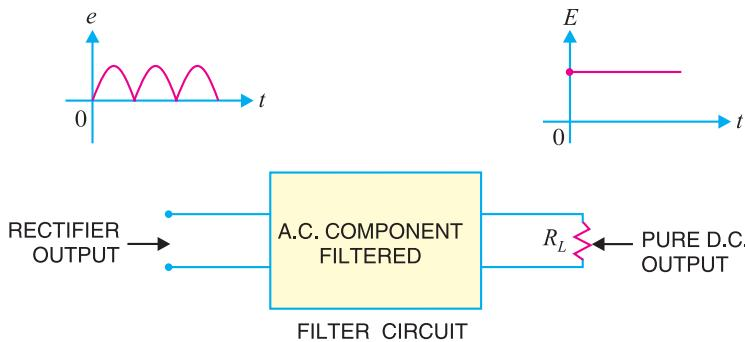

Fig. 6.40
Obviously, a filter circuit should be installed between the rectifier and the load as shown in Fig. 6.40. A filter circuit is generally a combination of inductors (L) and capacitors (C). The filtering action of L and C depends upon the basic electrical principles. A capacitor passes a.c. readily but does not ** pass d.c. at all. On the other hand, an inductor † opposes a.c. but allows d.c. to pass through it. It then becomes clear that suitable network of L and C can effectively remove the a.c. component, allowing the d.c. component to reach the load.